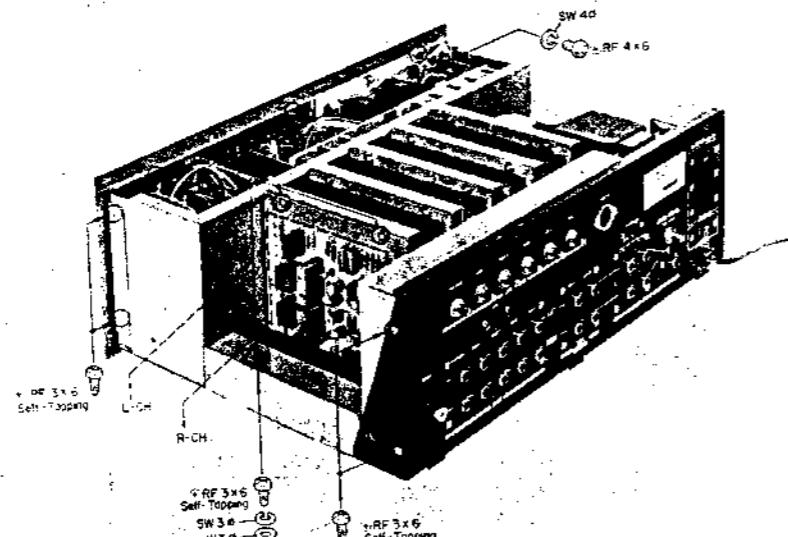

Fig. 2-2. Removal of Front-Panel Ass'y
- b. Remove the two self-tapping screws (+RF3φ × 6) on each side of the chassis. See Fig. 2-2.
- Remove the three Phillips-Head screws (+RF4φ × 6) behind the top edge of the Front Panel Assembly. See Fig. 2-2.
- Remove the two self-tapping screws (+RF3φ × 6) on each side of the chassis. See Fig. 2-2.